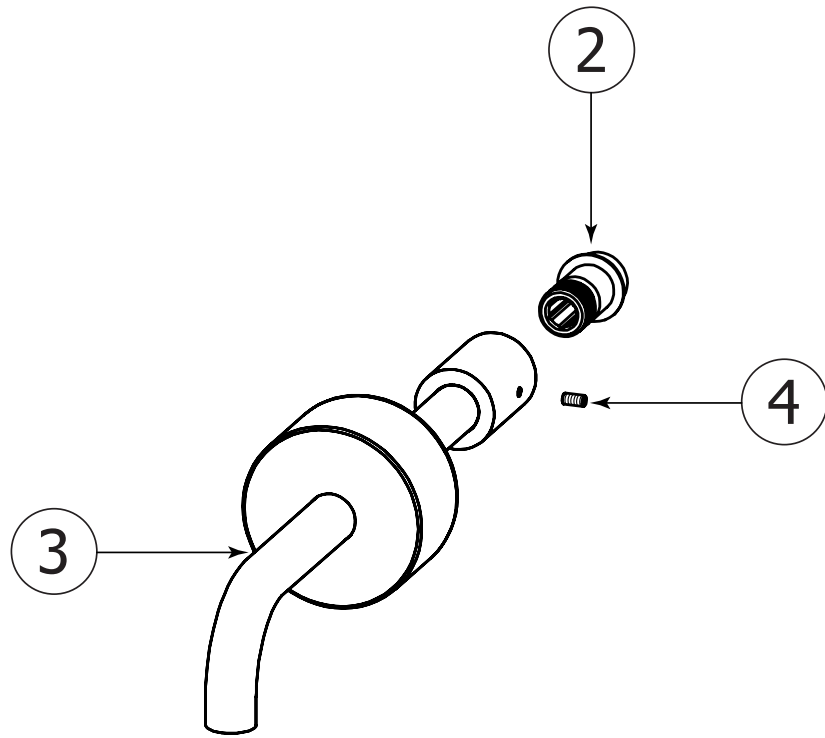

Fig. 5
- Fig. 5:** The male insert (2) must be fully inserted on the spout (3), vertical point on top, and locked in place with the Allen screw (4).